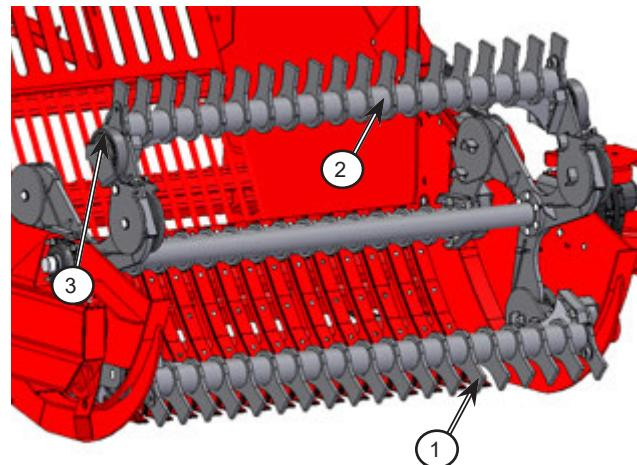

Figure 4.22: Check the condition of the reel
7. Check the condition of the reel; see Figure 4.22.
- a. Check that the bat teeth (1) are in good condition.
- b. Check that the bats (2) are in good condition and are not loose. Tighten as required.
- c. Check that the reel bat springs (3) are in good condition and are not broken.